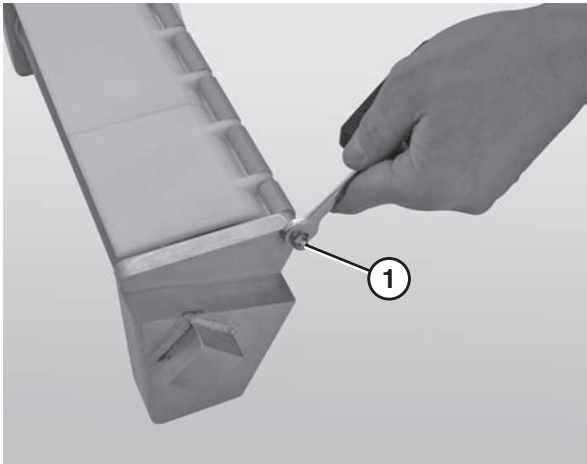

Figure 76
4. Use a 10 mm wrench to remove one of the acorn nuts (**Figure 76, item 1**) from the nose bar shaft.